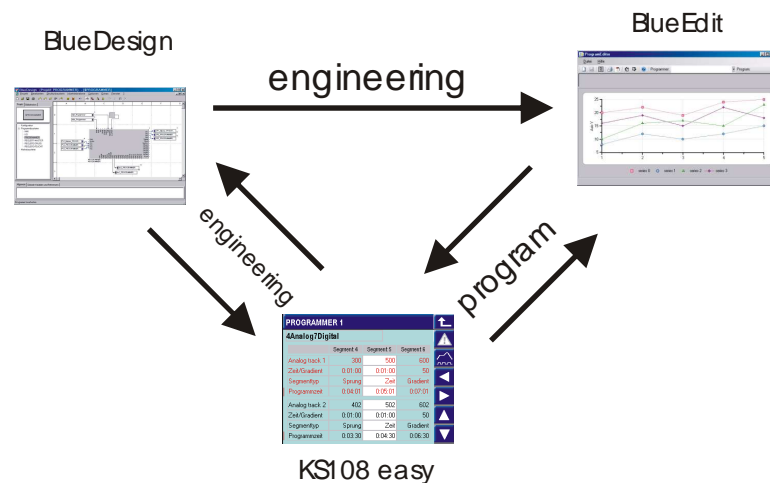

Fig 1: Interaction of the BlueDesign engineering tool and the BlueEdit program editor with the KS108 easy instrument
- Confirm that you agree to the license agreement (Fig 1: Interaction of the BlueDesign engineering tool and the BlueEdit program editor with the KS108 easy instrument) and follow the instructions displayed on the monitor.